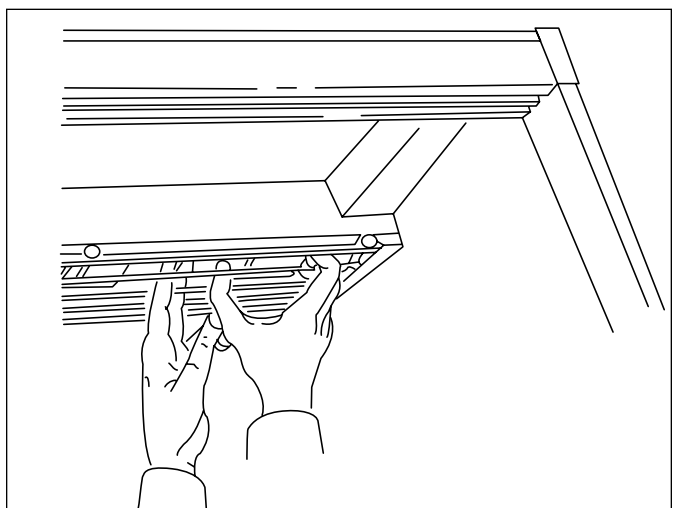

Figure 5. Heat Lamp Replacement
3. Gently, but firmly, depress the lamp socket and remove the lamp (Figure 5).